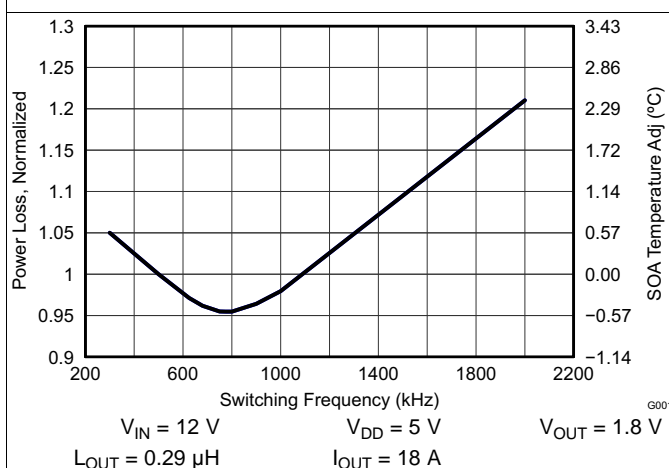

Figure 5. Normalized Power Loss vs Frequency
- Normalized power loss for switching frequency \approx 1.09 (Figure 5)
- SOA adjustment for switching frequency \approx 1.1°C (Figure 5)